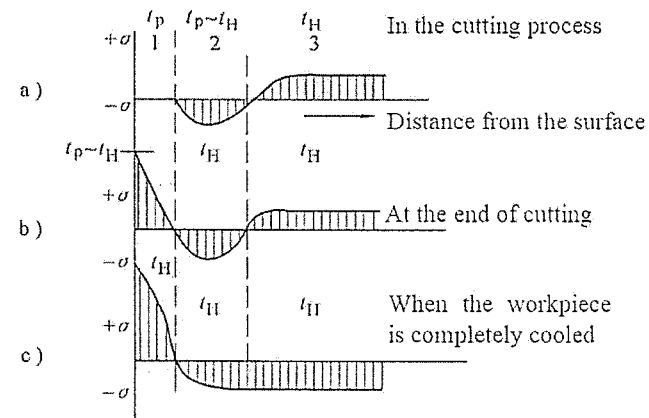

Figure 6
(2) 该误差可能为刀具加工时热变形, 伸长量较大导致的加工误差, 当刀具加工一段时间后更换刀具可消除此加工误差。
12. Analyze the influences of cutting heat on residual stress on the machined surface of the workpiece in the cutting process, at the end of cutting and when the workpiece is completely cooled in the machining process based on Figure 6. Here, t_H representing room temperature when the workpiece has high plasticity and t_p refers to the temperature; $+\sigma$ and $-\sigma$ represent tensile stress and compressive stress, respectively; 1, 2 and 3 represent three layers of metal at different distances from the workpiece surface, respectively. (6 points)